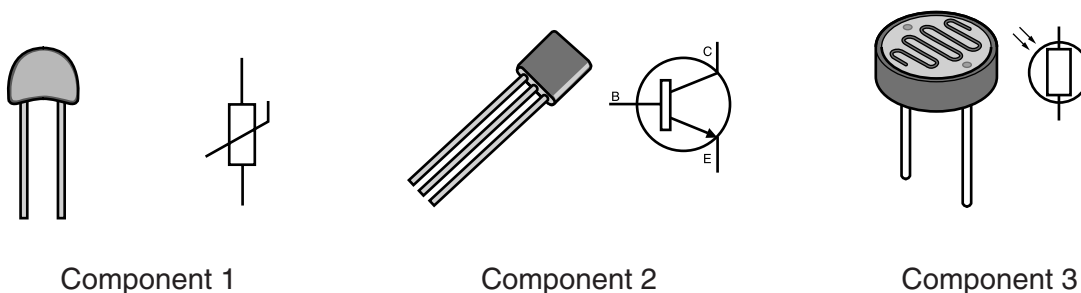

Fig. 5
- (c) Fig. 5 shows three electronic components and their symbol used in circuit diagrams. Identify each component and describe its function. Give an application of use for each of the components.